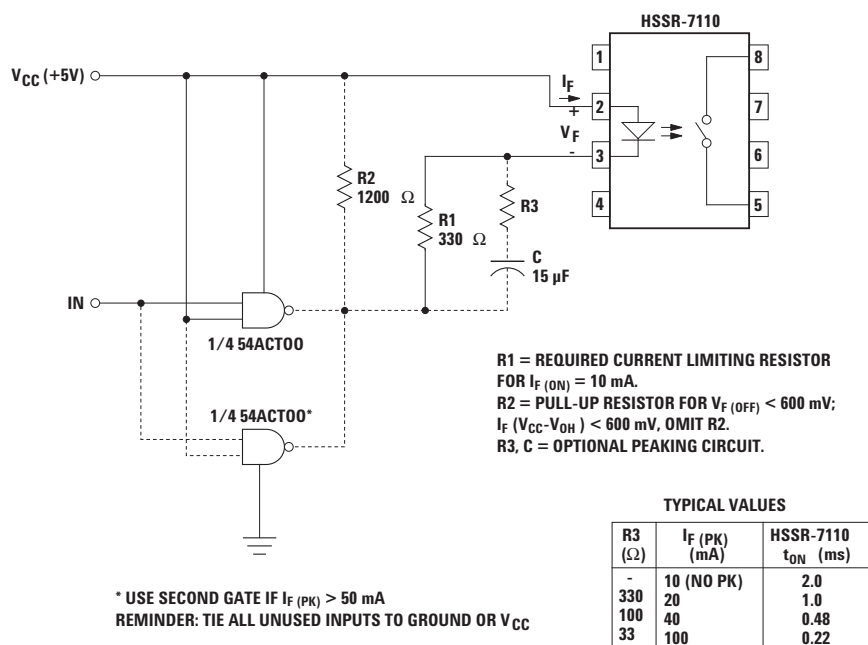

Figure 1. Recommended Input Circuit.
6. For a faster turn-on time, the optional peaking circuit shown in Figure 1 may be implemented.
Input Circuit: The drive circuit of the electro-mechanical relay coil needs to be modified so that the average forward current driving the LED of the HSSR- 7110 does not exceed 20 mA. A nominal forward drive current of 10 mA is recommended. A recommended drive circuit with 5 volt VCC and CMOS logic gates is shown in Figure 1. If higher VCC voltages are used, adjust the current limiting resistor to a nominal LED forward current of 10 mA. One important consideration to note is that when the LED is turned off, no more than 0.6 volt forward bias should be applied across the LED. Even a few microamps of current may be sufficient to turn on the HSSR- 7110, although it may take a considerable time. The drive circuit should maintain at least 5 mA of LED current during the ON condition. If the LED forward current is less than the 5 mA level, it will cause the HSSR-7110 to turn on with a longer delay. In addition, the power dissipation in the output power MOSFETs increases, which, in turn, may violate the power dissipation guidelines and affect the reliability of the device.